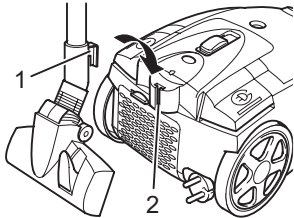

Fig. 15
■ When **setting the appliance aside** or during work breaks, you can hang the parking hook (Fig. 15/1) into the parking hook mount (Fig. 15/2).